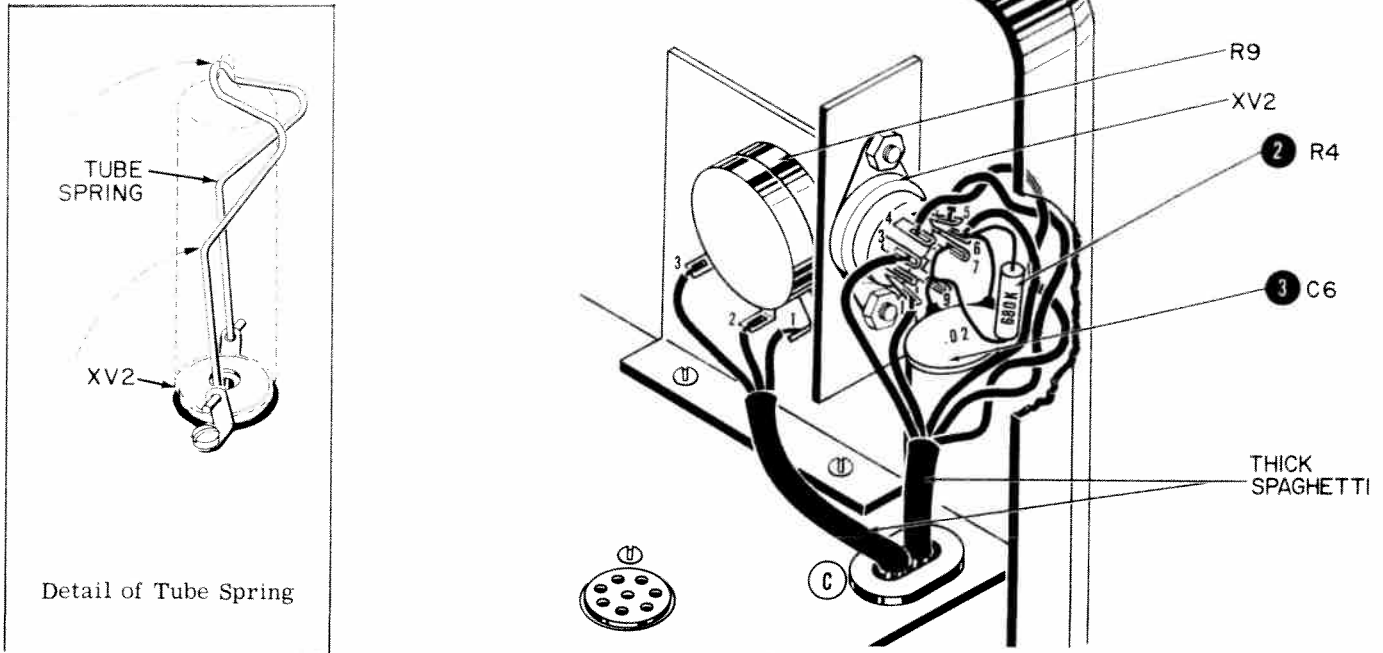

Figure 6. Top Chassis Wiring
- () 1. Mount the tube bracket to the chassis as shown. Use two No. 6-32 x 5/16 binding head screws, two No. 6 lockwashers and two No. 6-32 hex nuts. Orient it as shown in Figure 6.
- () 5. Mount the nine pin miniature socket XV2, to the tube bracket, as shown. Orient it so that the space between pins 1 and 9 are facing the main chassis. Secure it to the bracket using two No. 4-40 x 5/16 binding head screws, two No. 4 lockwashers and two No. 4-40 hex nuts. Under each of the screwheads, place one No. 4 ground lug. Bend pin No. 8 flat against the socket. See Figure 6.
NOTE: The line cord and strain relief will be mounted and connected after the wiring is completed in Figure 6.
The following steps refer to Figure 6.